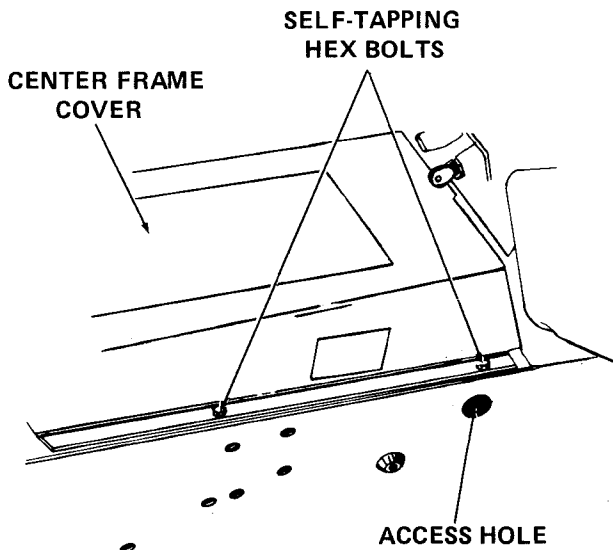

Figure A-3
2. Lower tractor lift to full down position. Check access hole to be sure headed pin is visible and positioned for later removal. Refer to Figure A-3.
4. Remove center frame cover by removing four self-tapping hex screws. Refer to Figure A-3.